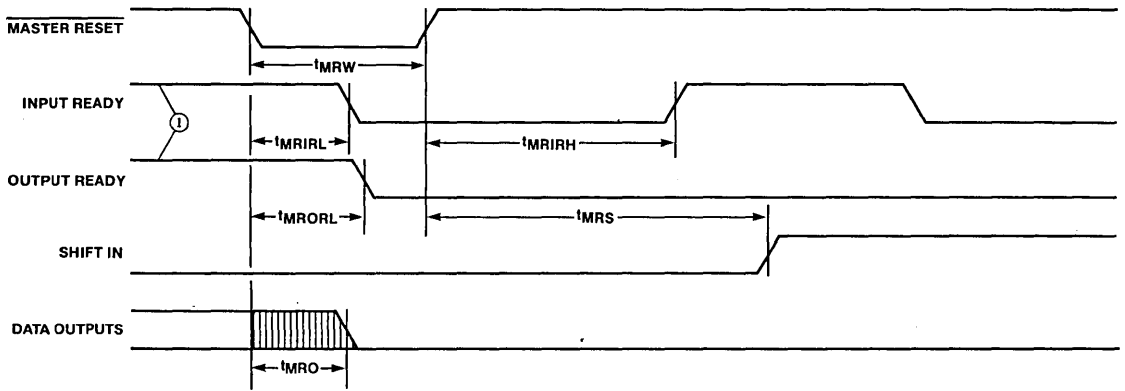

Figure 10. Master Reset Timing
After power up the Master Reset is pulsed low (Figure 10) to prepare the FIFO to accept data in the first location. Master Reset must be applied prior to use to ensure proper operation. When Input Ready (IR) is HIGH the first location is ready to accept data from the  $D_X$  inputs. Data then present at the data inputs is entered into the first location when the Shift-In (SI) is brought HIGH. A SI HIGH signal causes the IR to go LOW. Once data is entered into the first cell, the transfer of data in any full cell to the adjacent (downstream) empty cell is automatically activated by an on-chip control. Thus data will stack up at the end of the device (while empty locations will "bubble" to the front when data is shifted out).  $t_{PT}$  defines the time required for the first data to travel from input to the output of a previously empty device. When SI is brought LOW and the FIFO is not full, IR will go HIGH, indicating more room is available. If the memory is full, IR will remain LOW.